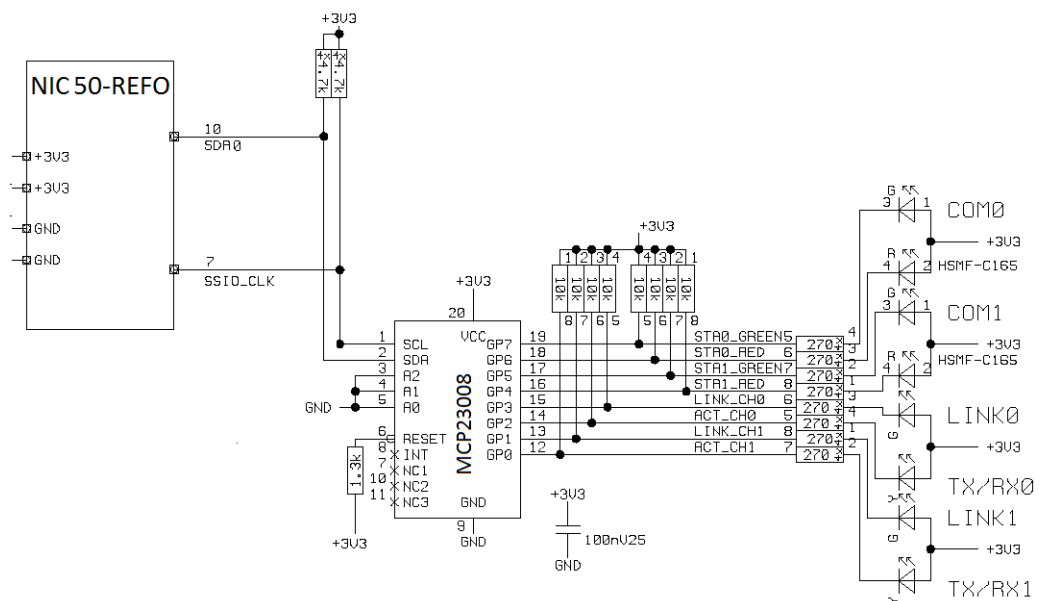

Figure 30: Connecting a LED Control for the NIC 50-REFO via I2C.
We recommend to connect the NIC 50-REFO to the 8 bit parallel I/O port extender circuit *Microchip Technology MCP23008* with I2C interface according to the design proposal given in *Figure 30* on page 138.
- The example given in *Figure 30* is based on the pin numbering of the SSOP packaging variant of the Microchip Technology MCP23008.
- The recommended circuit for the port extension (Microchip Technology MCP23008) has 8 general purpose input/output (GPIO) pins GP0-GP7 (pins 12 to 19, see *Figure 30*). It controls the following signals: